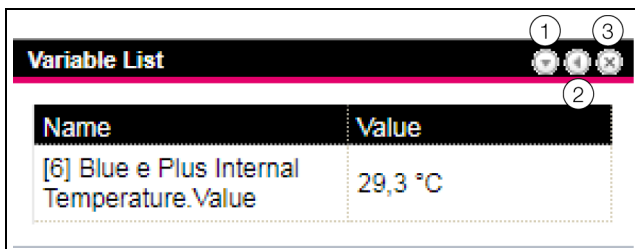

Fig. 41: Representation icons
- Click the icon for adapting a list with variables (fig. 41, item 2) in the title line of a "Variable List" type representation. The "Select Variables" dialogue is displayed.